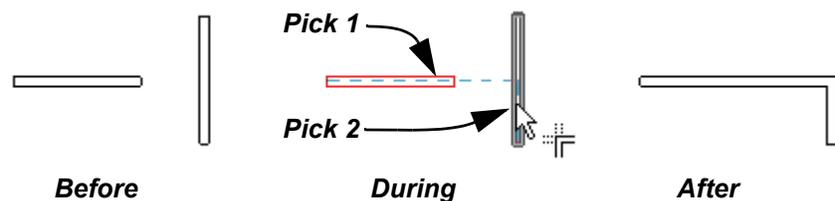

Figure 2–37
3. Select the second element on the side you want to keep, as shown in Figure 2–37.